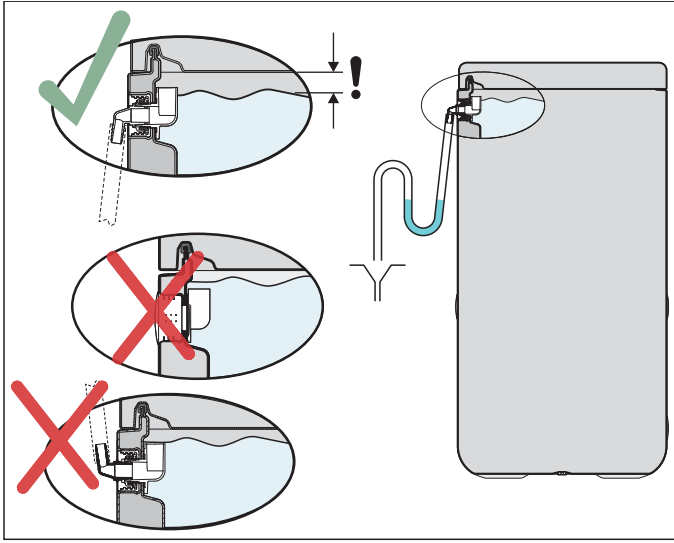

Fig. 3-6 Installation of drain hose at safety overflow
- 6 Connect the drain hose to the connection piece for the safety overflow (see fig. 3-6 and fig. 2-1, item 23).